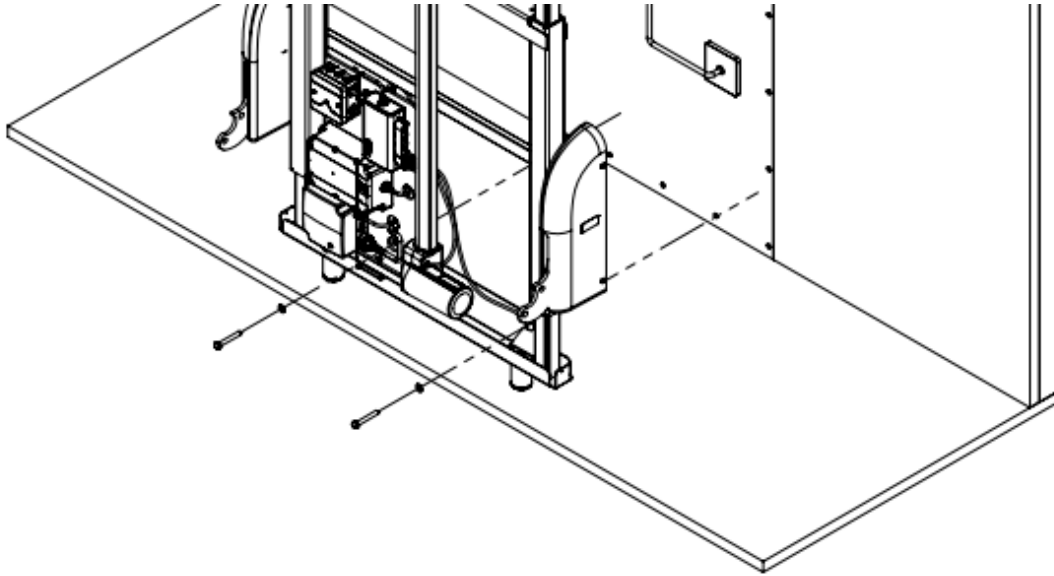

Fig 12.3b
- Using the screws and washers provided, No. 8 x 2 23/64" (60 mm) coach screws, fit the top three first and then the lower two, as shown in Fig 12.3b.